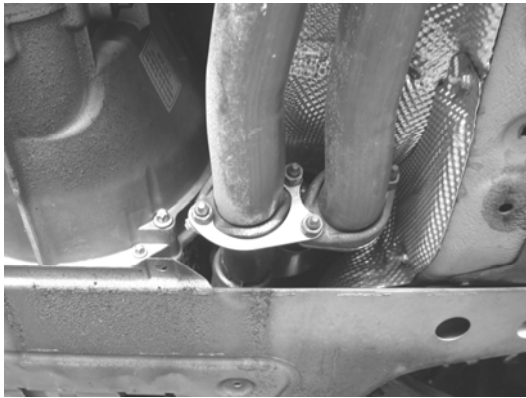

Figure 3
3. Unbolt the flanges shown in figure 3 located behind the catalytic converters. Place the hardware to the side for use during the installation of your new exhaust system.